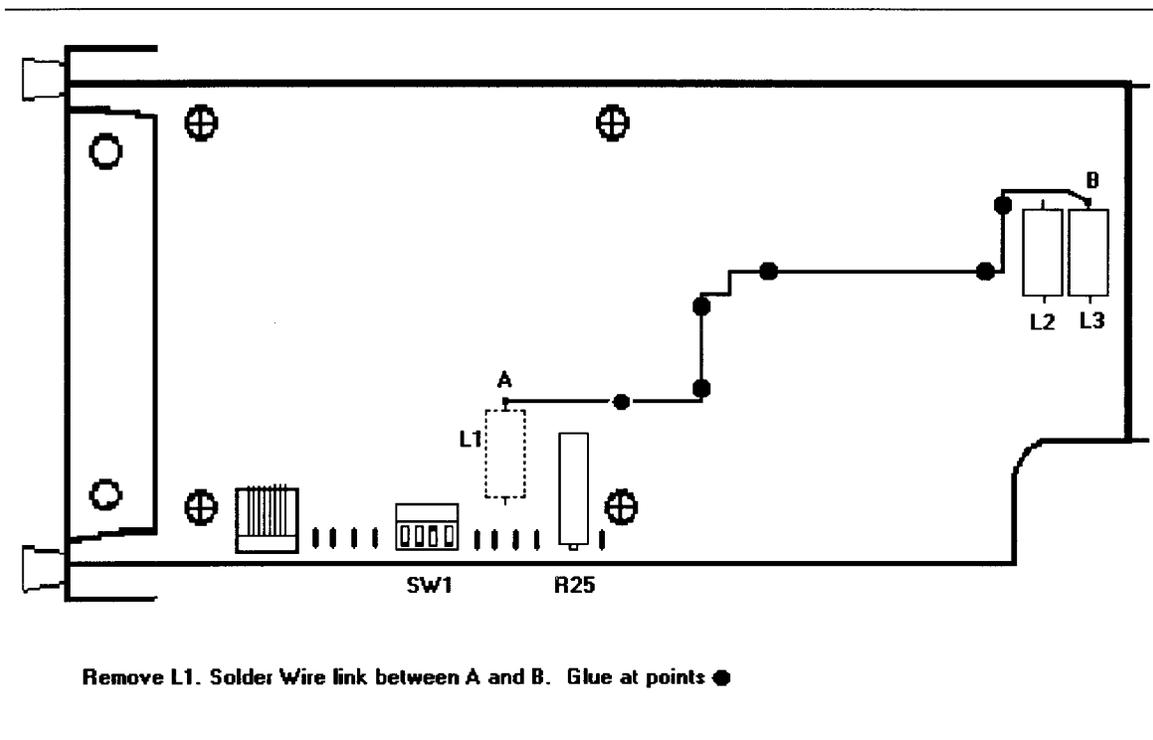

Figure 2 - Showing the Wire-Link modification to the Processor Board
2. Remove L1 and discard - see Figure 2..
3. Solder a wire link on the topside of the board as shown in Figure 2.
4. Using an epoxy resin glue, support the wire link at the points shown in Figure 2.